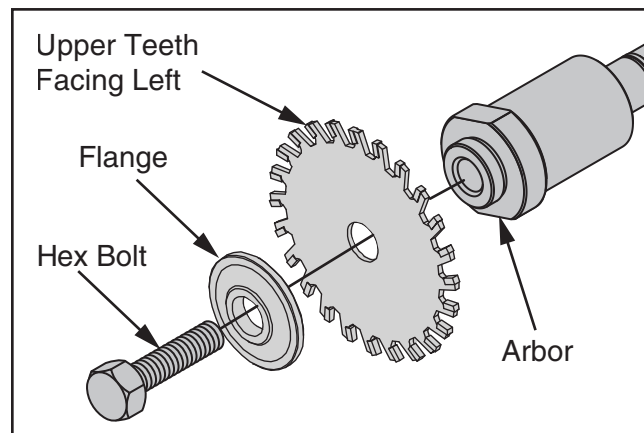

Figure 89. Scoring blade order of assembly.
7. Install scoring blade set, flange, and arbor hex bolt in reverse order from removal, making sure upper blade teeth face LEFT (see **Figure 89**), then tighten arbor hex bolt.